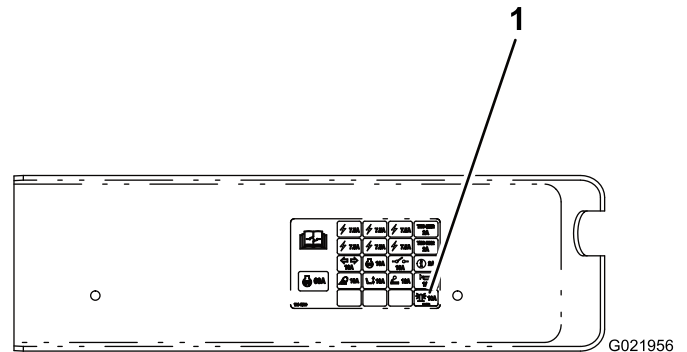

Figure 8
- Affix the beacon decal to the fuse block decal at the location shown in (Figure 8). Make sure the decal surface is clean and dry before affixing the decal.